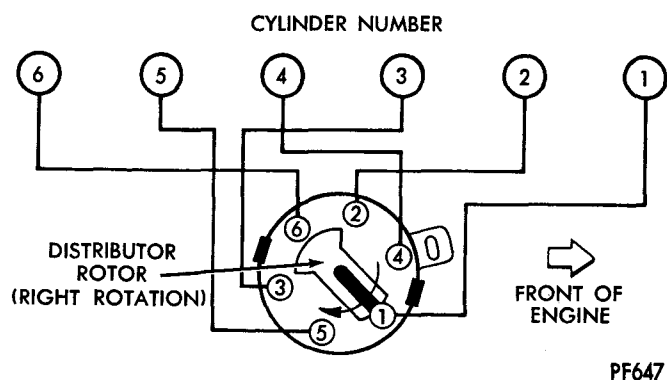

Fig. 24—Distributor With Rotor Positioned Under No. 1 Tower of Cap
(2) With distributor "O" rings in position, hold the distributor over mounting pad.
(3) Turn the rotor to point forward, corresponding to 4 o'clock.
(4) Install distributor so that with distributor fully seated on the engine, the gear has spiraled to bring the rotor to a 5 o'clock position. (Fig. 24).
(5) Turn the housing until rotor is under No. 1 cap tower.
(6) Install hold down bolt and connect the primary wire.
(7) Adjust timing to specifications, using a timing light, then re-connect the vacuum line.